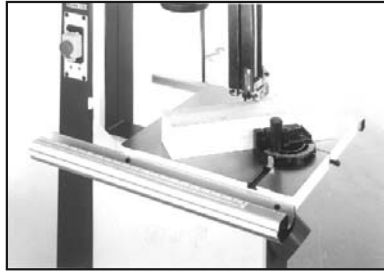

Fig.16
4. Tighten the clamp screw (Fig. 16).